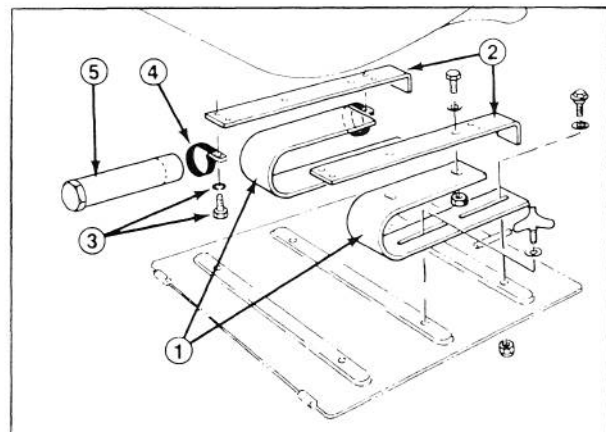

Figure 2
1. Attach "U" springs to seat mounting brackets using bolts and locknut as shown in (Fig. 2).
2. Install lockwashers and R-Clamps onto each mounting capscrew for the right seat mount. Insert the assemblies through the seat bracket holes and secure the bracket to the seat (Fig. 2). Install lockwashers onto each mounting capscrew for the left seat bracket and secure the bracket to the seat. Install manual tube into R-Clamps, insert manual into tube and place cap over tube end (Fig. 2).